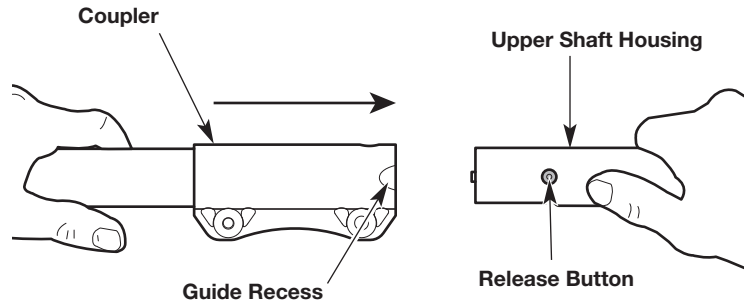

Fig. 5
4. Align the release button with the guide recess (Fig. 5).
5. Push the coupler straight onto the upper shaft housing (Fig. 5).